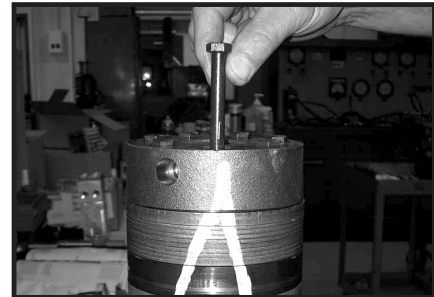

Figure 56
20. Assemble the 7 special bolts (1, 1A, 1B or 1C) and screw in finger tight. Alternately and progressively tighten the bolts to pull the end cover and other components into place with a final torque of 50-55 ft. lbs. (68-75 N m) for the seven 3/8-24 threaded bolts. SEE FIGURES 56, 57 and 58.